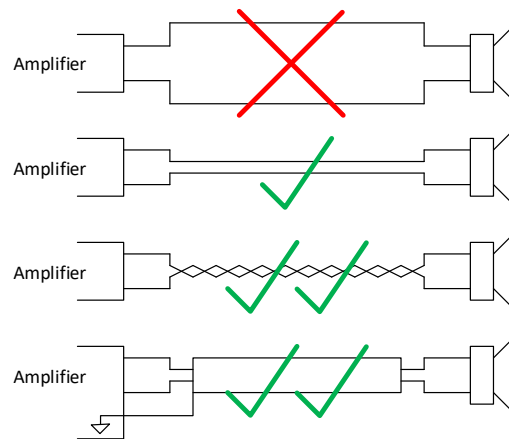

Figure 31: Speaker wire routing
- Avoid wire loops on the speaker output wires. Use wires closely paired side by side or if required use twisted or shielded cables (Figure 31)